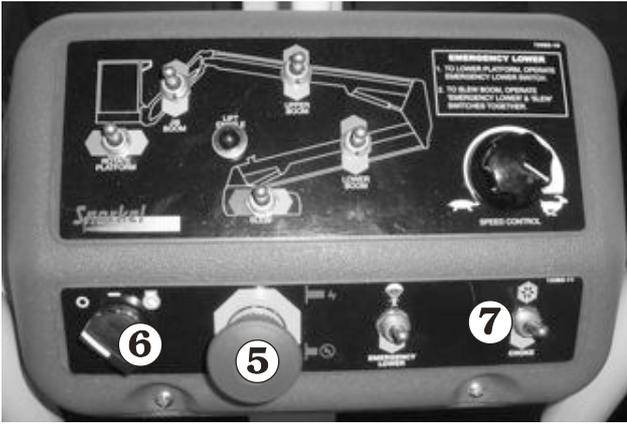

Figure 8.7
4. Set the **Emergency Stop** switch ⑤ to (ON) (see Figure 8.7).
5. Turn the **Start** switch ⑥ to ON (see Figure 8.7).
6. If the engine is at ambient temperature (cold), hold the **Choke Switch** ⑦ (see Figure 8.7) up throughout the next step.
7. Turn the **Start** switch ⑥ to START and hold it there until the engine starts or for a maximum time of 6 seconds. When the engine starts, release the key (6) and the choke switch ⑦, if you used it (see Figure 8.7).